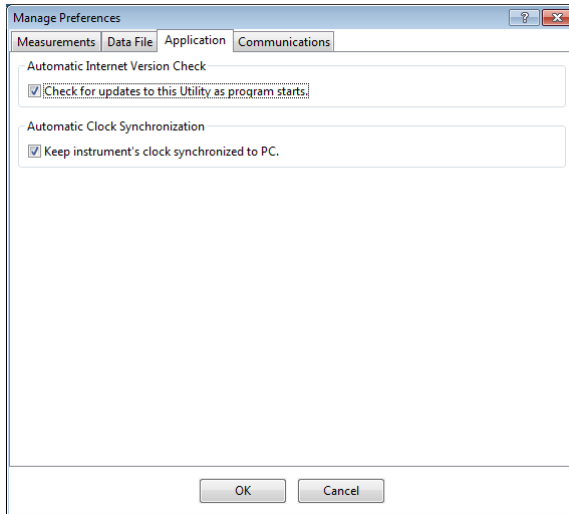

Figure 28 Application tab
- Application Tab (Figure 28):